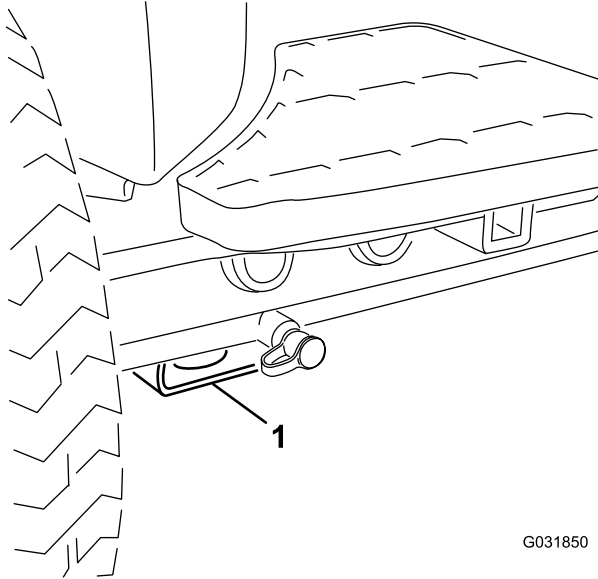

Figure 59
- **Front of the machine**—rectangular pad, under the axle tube, inside each front tire (Figure 59).